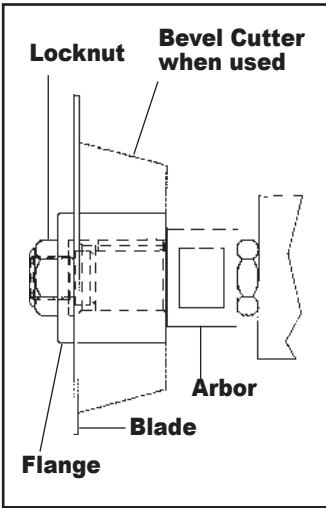

FIG. 3
- b. Long Arbor (for cutting & beveling PVC) - Install the bevel cutter (small edge toward motor) or the arbor spacer (for cutting only) over the key on the arbor. Install the blade on the $\frac{5}{8}$ diameter arbor shoulder (Fig. 3). Install the flange with the relieved side toward the blade and screw on the locknut. While holding a wrench (supplied) on the $\frac{7}{8}$ arbor flats, tighten the arbor locknut. The blade must seat fully on the arbor shoulder and flush against the bevel cutter or arbor spacer.